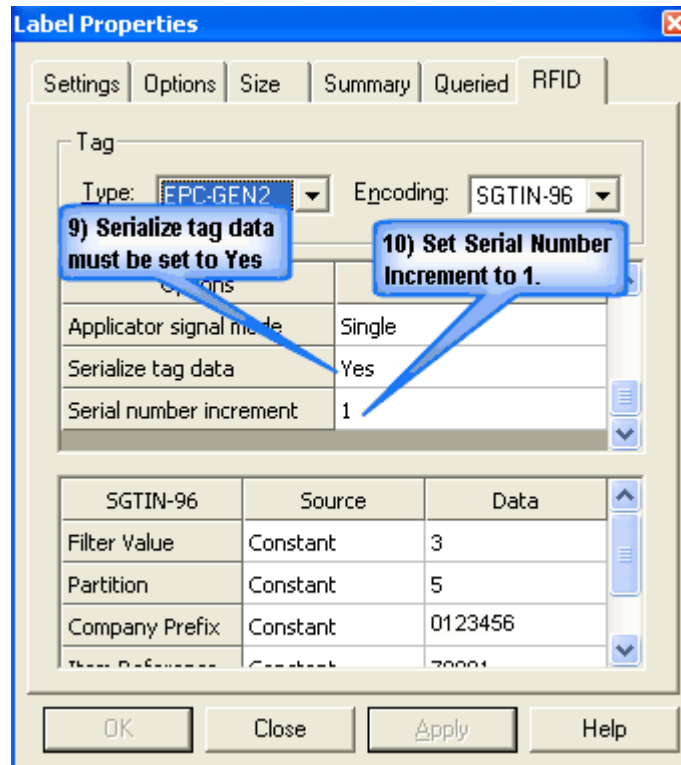

Figure 3
8. Scroll down in the upper dialog box to enter the next set of values. Figure 3.